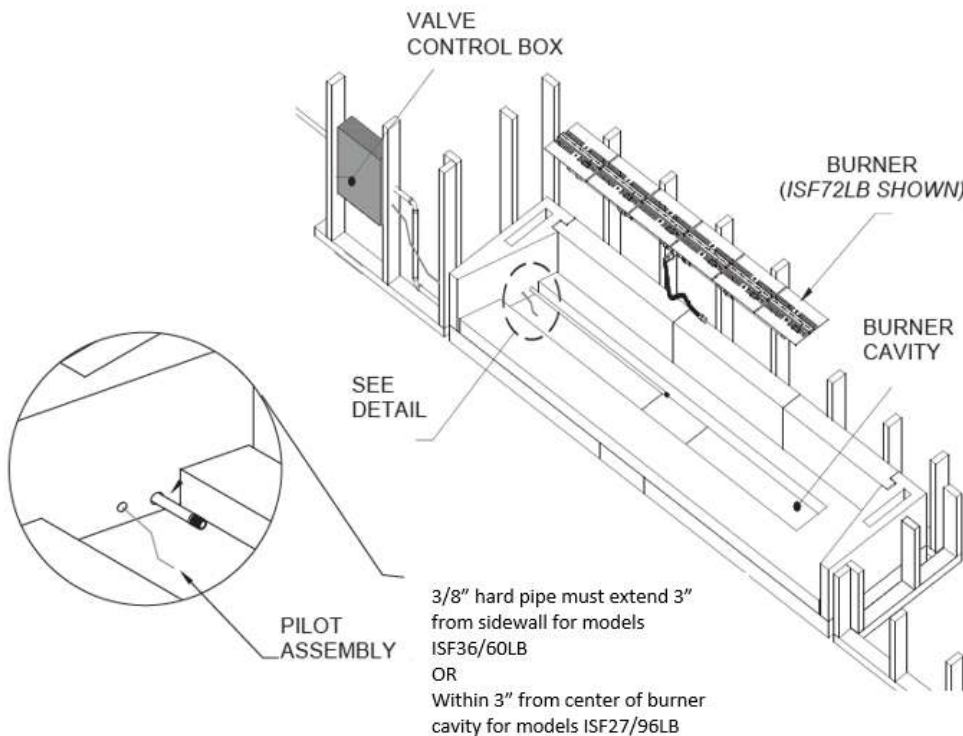

FIGURE 60
- 4) The 48” and 72” Maximus Linear Open Front fireplaces (82L48 & 82L72) will require the ISF36/60LB (respectively): Gas supply piping for these models shall terminate not less than 3” from sidewall. (Figure 60)
- 5) The 96” and 120” Maximus Linear Open Front fireplaces (82L96 & 82L120) will require the ISF72/96LB (respectively): Gas supply stub piping for these models shall terminate within 3” from center of the cavity. (Figure 60)